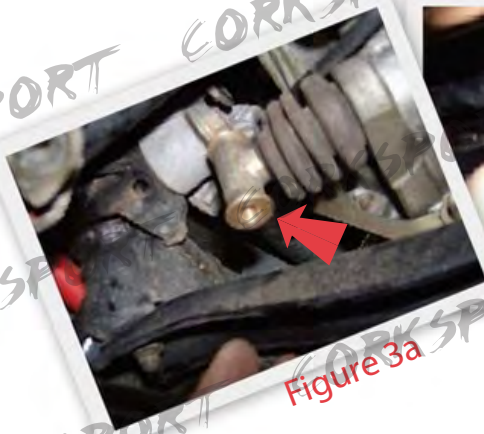

Figure 3a
- A) Install the two 10mm ID bronze shifter bushings into the transmission linkage as shown in Figure 3a, one on the top and one on the bottom. They should fit snugly, so make sure you have the 10mm not 12.5mm.